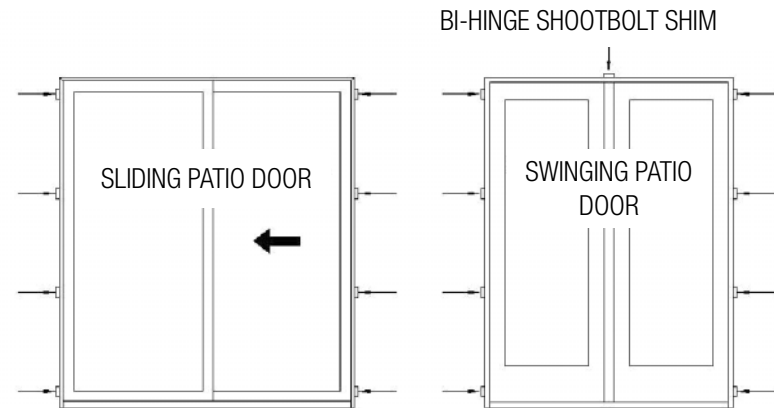

FIG. 13
- Start with a shim at each corner no more than 1" from the jamb corner. Add additional shims spaced evenly from the center of the unit. Make sure shims are spaced no more than 16" apart. Use flat shims or pairs of triangle shims to ensure the jamb does not twist. (Fig. 13)
- Additional shims are required at each lock point, head shootbolt and hinge location for all operating doors. (Fig. 13)